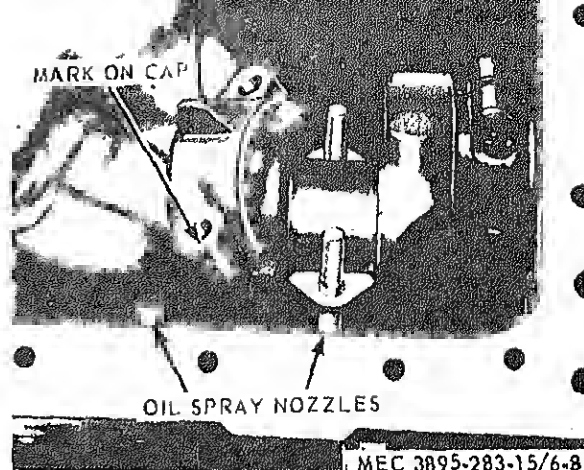

Figure 6-8. Piston and Connecting Rod Removal.
a. Removal (fig. 6-8).
(1) After removal of the oil pump, all of the connecting rod bolts will be accessible.
(2) Remove nuts and then top ends of